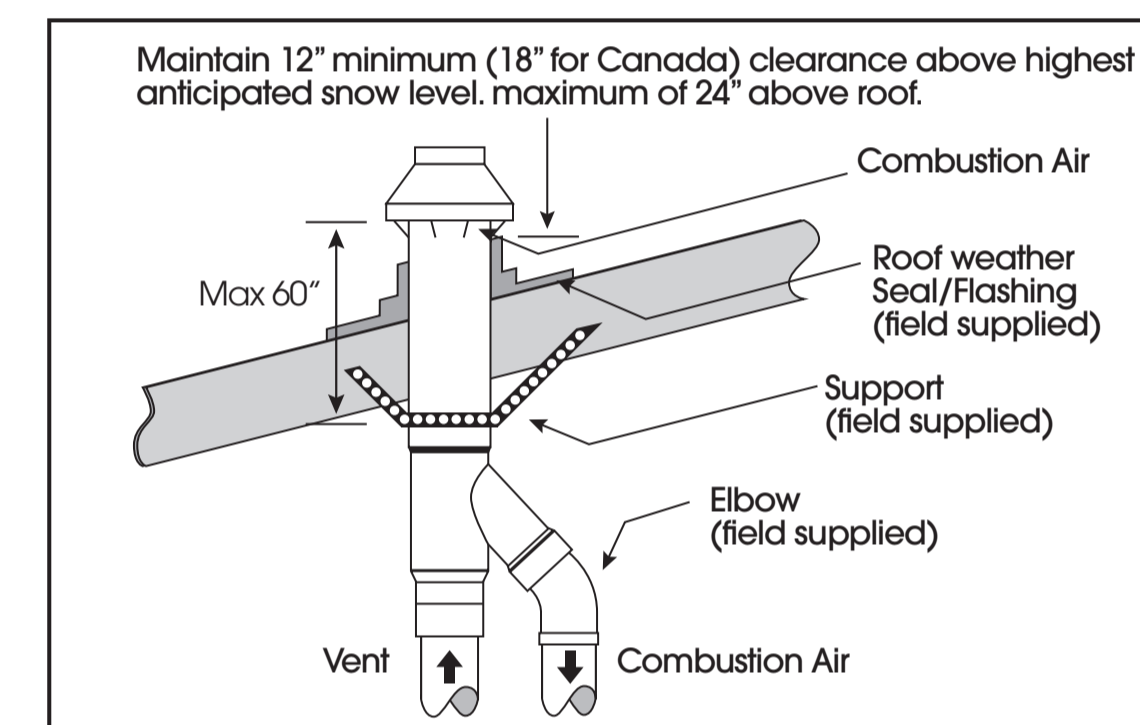

Figure 3-Typical Roof Install
7. Secure to roof (Figure 3) using metal strapping or equivalent support material (user supplied).
9. Cement furnace combustion air and vent pipes to Concentric Vent. Refer to Figure 3 for proper pipe attachment.
NOTE: If assembly is too short, the 2 pipes supplied in the kit may be replaced by using same diameter, field supplied SDR-26 PVC (D2241) pipe. Do not extend pipes with Schedule 40 PVC or couplings. The additional wall thickness will restrict combustion air and may cause operational problems. Do not extend air inlet pipe more than 60" (Figure 3).